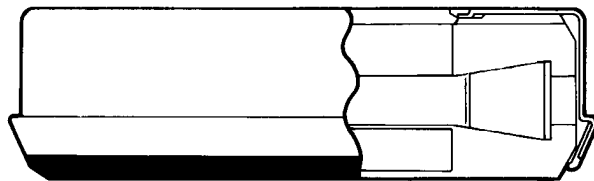

Figure 1 One-Piece Sealed Thrust Bearing Installed With The Seal Lip Towards The Bottom Of The Knuckle
4. Slide the thrust bearing between the lower face of the axle center and the lower steering knuckle yoke with the seal lip towards the bottom of the knuckle. Figure 1 below shows the seal lip on the bottom.